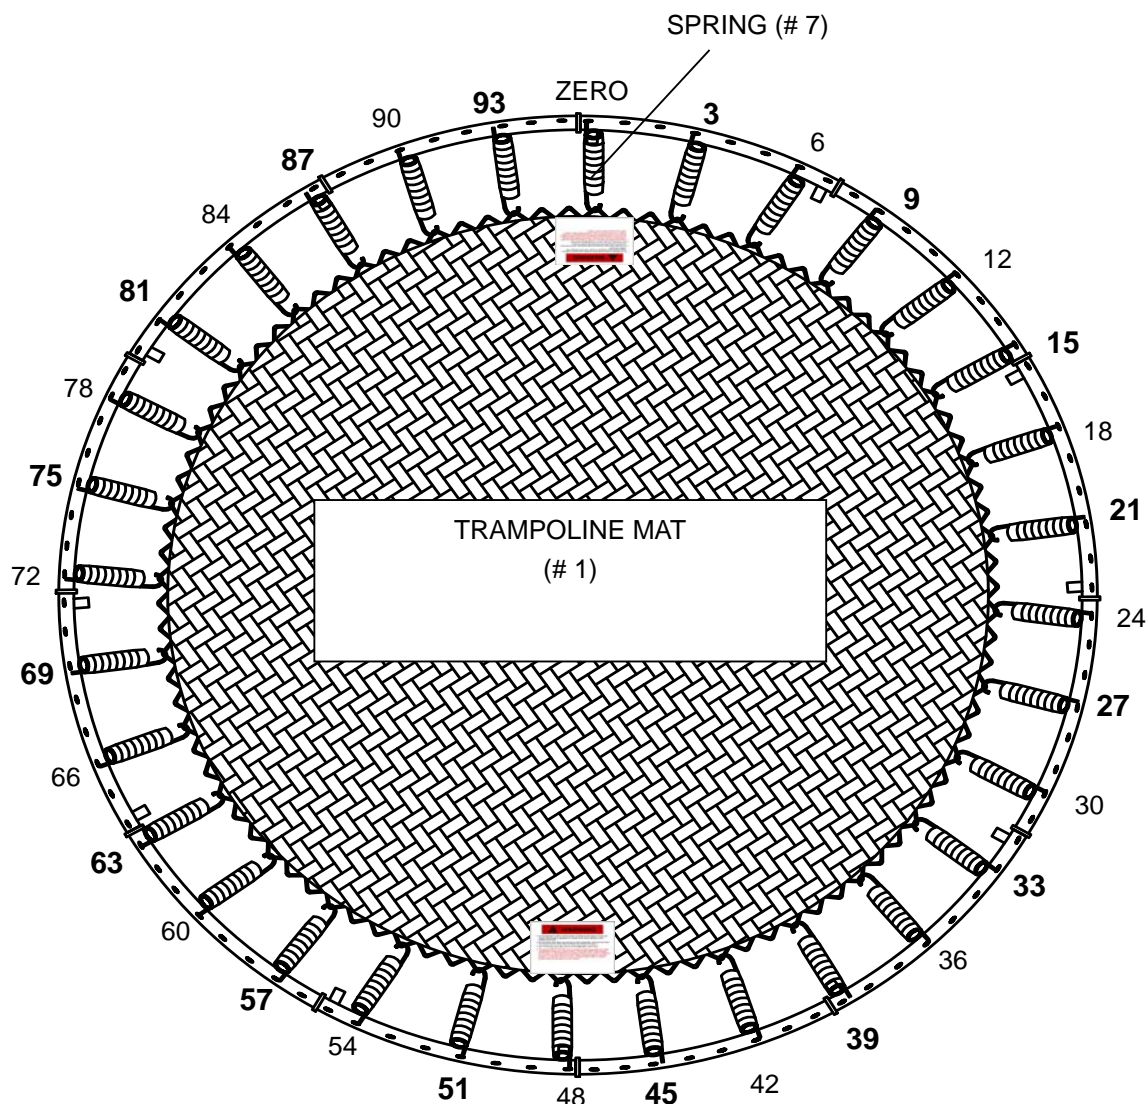

FIGURE 10
F. Attach a spring every 3 holes and corresponding Triangle-Ring. For even distribution of tension and ease of assembly, springs should be placed on opposite sides of the mat/frame.....i.e. 3 then 51, 75 then 27, etc. In addition to the previously installed, you should have springs at 3, 9, 15, 21, 27, 33, 39, 45, 51, 57, 63, 69, 75, 81, 87 and 93 as shown in FIGURE 10.